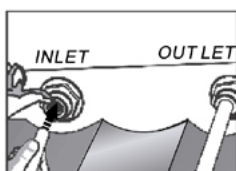

FIGURE 7
6. Push the plastic ferrule and place the end of the plastic tubing to the ferrule. Push as far inas possible (Fig. 7 and 8)
- Push the plastic ferrule and place the end of plastic tubing to the ferrule. Push as far in as possible (Fig. 7 and 8).